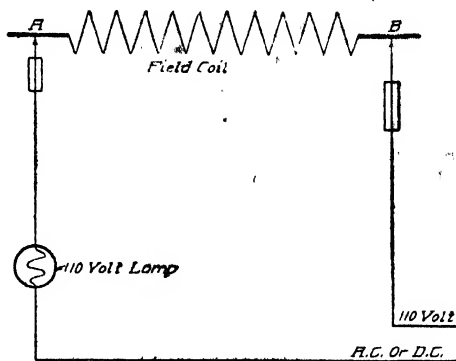

Fig. 269. Diagram for Locating Open Circuits in Field Coils with Lamp-Testing Set
*Open-Circuits in Fields.* To test for open-circuits in fields, the test set is the only apparatus required, and the points should be placed as shown in Fig. 269. By placing one point on each terminal of the particular winding to be tested, failure of the lamp to light
current, illustrated in Fig. 269. It is a method which also permits one coil to be checked against another of the same kind, as the readings given by the two coils should be approximately the same. Where neither a 110-volt current nor a portable voltmeter are available, these tests may be carried out with the aid of a 6-volt bulb in connection with the storage battery, as shown for the voltmeter tests. In this case, the lamp will light brightly when the free ends of the wires are brought together, but it will dim in proportion to the amount of extra resistance added to the circuit, as represented by the coil under test. While not so accurate as the tests with the voltmeter, comparative